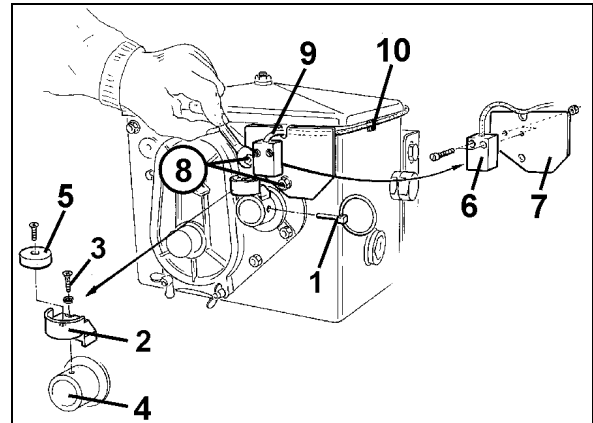

Fig. 9
1. Remove clip pin (Fig. 9/1, which connects agitator shaft with drive).
2. Bolt magnet mounting bracket (Fig. 9/2) with self thread cutting bolt M4 x 10 (Fig. 9/3) and spring washer to the gearbox hollow shaft (Fig. 9/4)..
4. Bolt the magnet (Fig. 9/5) with a self thread cutting bolt M4 x 10 to the magnet mounting bracket..
5. Bolt sensor (Fig. 9/6) on to the sensor bracket (Fig. 9/7).
6. Bolt sensor bracket (Fig. 9/7) with two housing nuts (Fig. 9/8) on to the gearbox.
7. Place sensor cable (Fig. 9/9) towards the tractor cab..
8. Fix magnet cable to the seed drill with adhesive plates (Fig. 9/10) and with cable ties. The sticking areas must be clean and free of grease/oil.
9. Reinsert clip pin (Fig. 9/1) into the gearbox hollow shaft.